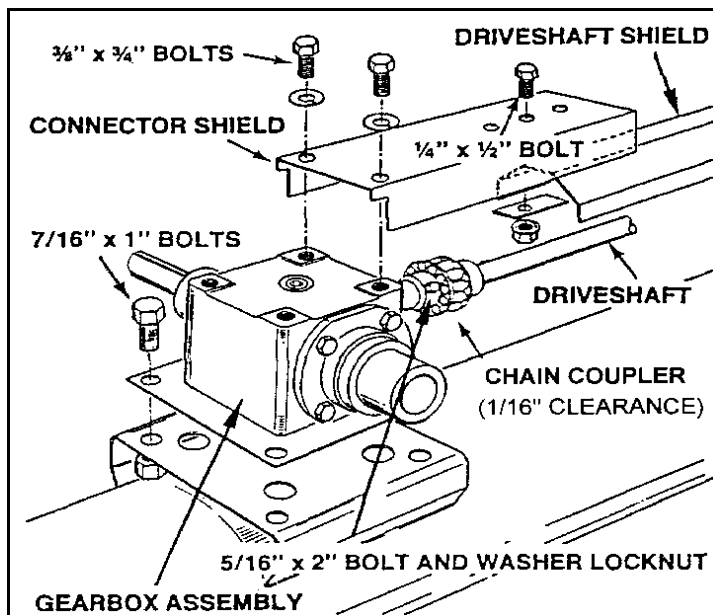

Figure 3.6
See Figure 3.6.
2. Attach the connector shield to gearbox (Figure 3.6) with two 3/8" x 3/4" bolts and lockwashers. Attach the first driveshaft shield to the connector shield with one 1/4" x 1/2" bolt, a washer-locknut, and a punched flat iron plate.